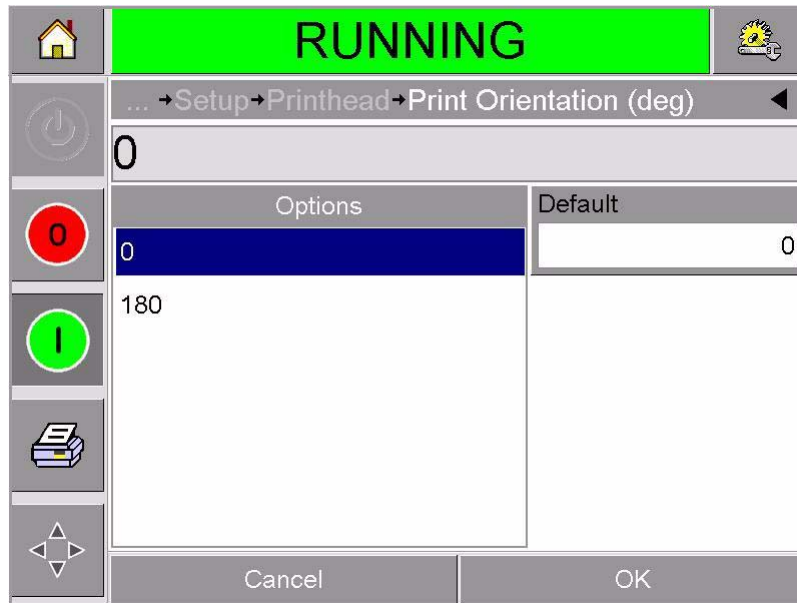

Figure 4-15: Print Orientation Settings
- 4 Touch the Print Orientation bar to open the print orientation settings page (Figure 4-15 on page 4-17).